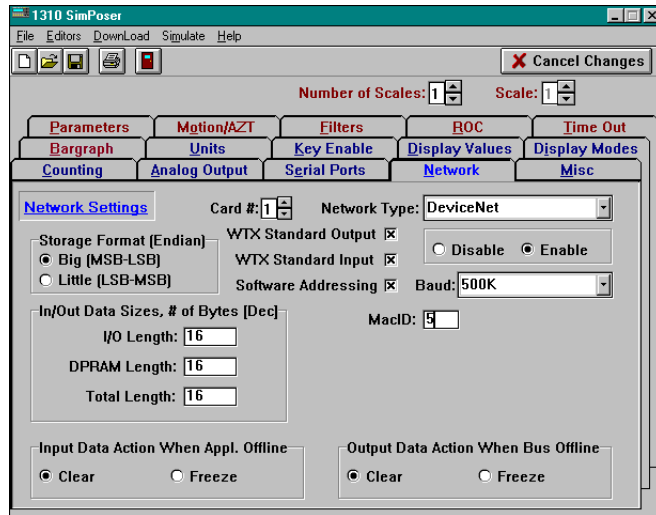

Figure 12
Network is the next tab, shown in Figure 12.
2. Network type. Figure 12 shows DeviceNet™ as an example.
- Clear - sets all memory to zero (0) if the network goes off-line